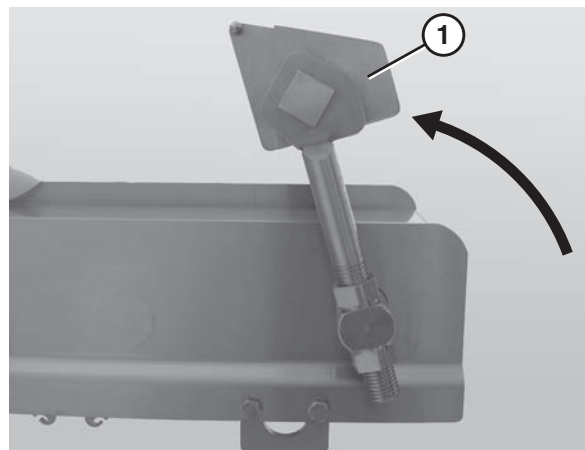

Figure 14
1. Place the idler tail (**Figure 14, item 1**) in the up position.